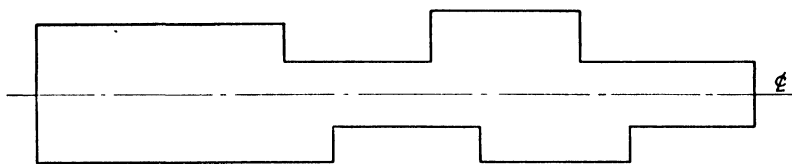

Fig. 51.
3. Find the perimeter of the figure in Fig. 51. Measure accurately to the nearest 32nd.